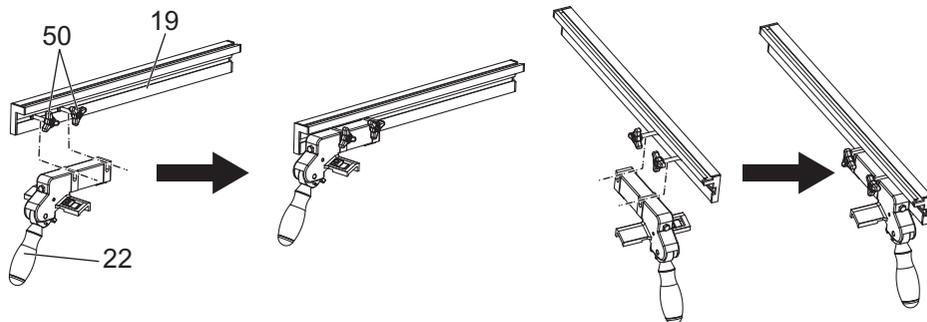

Fig. 14
- > Tighten the rip fence locking handle [22] on the rip fence [19] with the knurled screws [50]. Rip fence locking handle [22] can be mounted on left or right of the rip fence [19] as shown in Fig. 14.